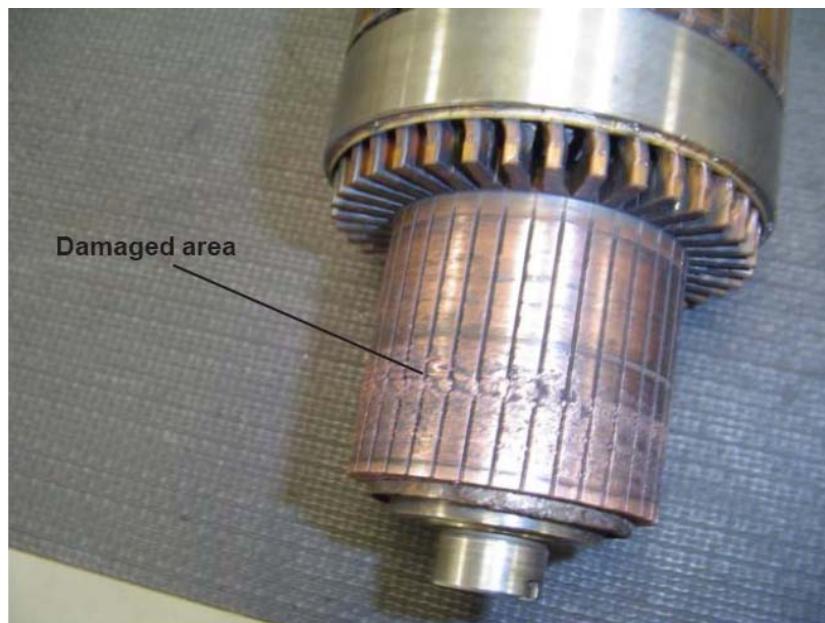

Figure 3
4. Use a flashlight to visibly inspect the condition of the commutator surface. If severe damage (i.e., arced, pitted, etc.) is noted, then replace unit. See Figure 3 for an example of a damaged commutator.